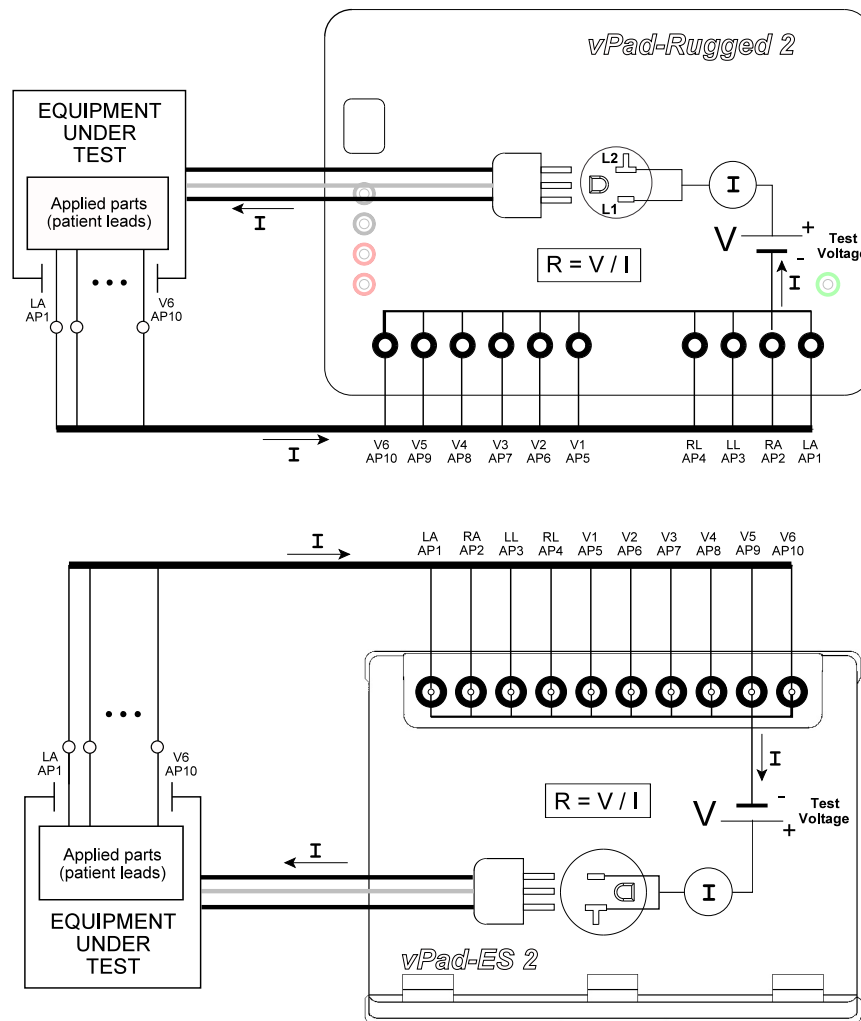

Figure 50 - Insulation Resistance test - Mains Parts to non-earthed Accessible Conductive Parts.
Select **Insulation Test: L1+L2 to AP** from the **Insulation Test Type** menu to measure insulation resistance between the Mains Part of the EUT (L1+L2) and the EUT's Applied Parts (AP). This is represented in the schematic of *Figure 50*.